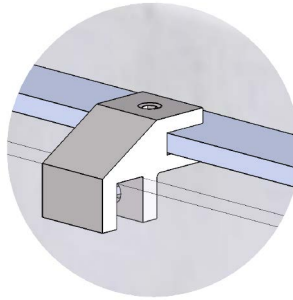

FIG 24a .
- Fasten chrome brackets to overhead glass brace and sit in place above door. When panels are aligned correctly, tighten grub screws. (FIG 24a).